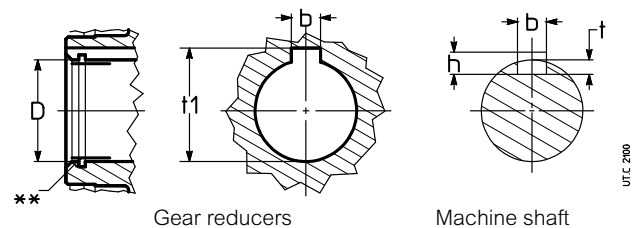

Fig. 7.8.2
**Warning!** When **mounting** the gear reducer on the machine shaft end, D diameter (\*\*, see fig. 7.8.2) at hollow shaft engagement (standard, stepped shaft, with shrink disc) it is slightly oversized compared with the rated dimensions: However this won't affect the connection reliability.